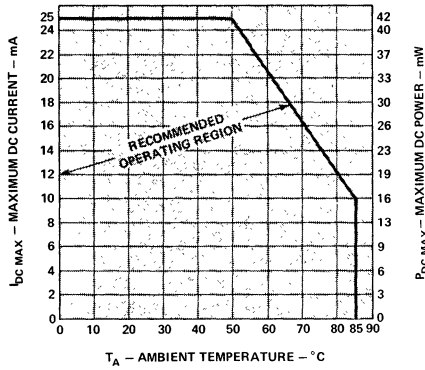

Figure 2. Maximum Allowable DC Current and DC Power Dissipation per Segment as a Function of Ambient Temperature.
- From Figure 2, determine the value for $I_{DC\text{ MAX}}$.